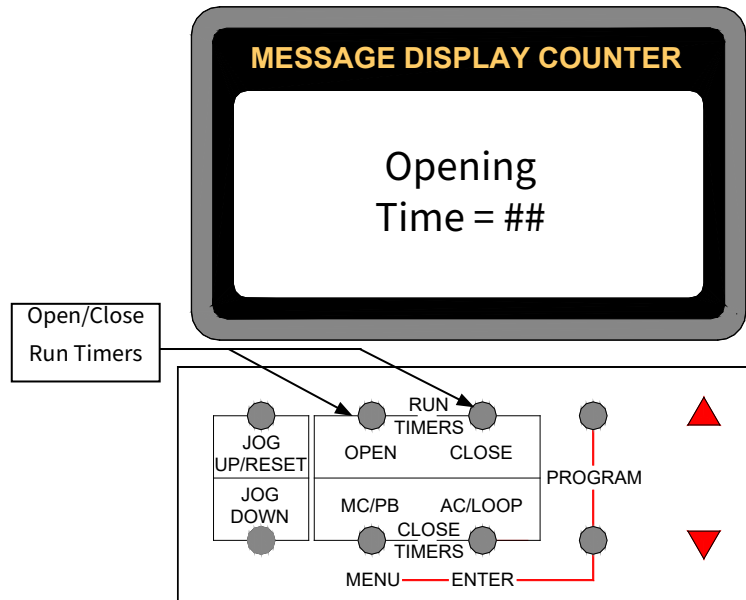

Figure 46: RUN TIMERS Buttons
- Press and release the open run timer button. Opening\_time=## displays in the lcd. See figure 46.